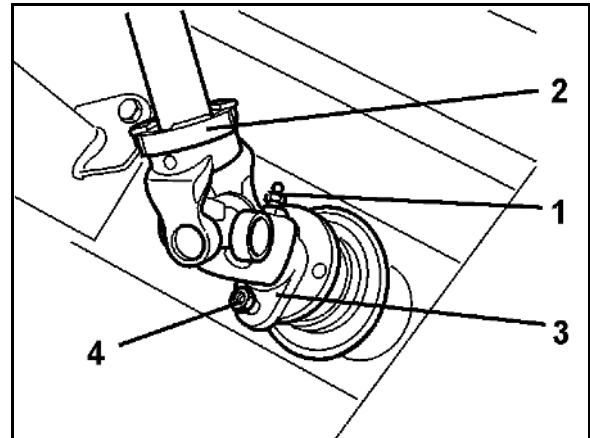

Fig. 97
1. Release the tapered grease nipple (Fig. 97/1) in the connection fork (Fig. 97/2) of the PTO shaft – through the opening in the underside of the PTO shaft guard.
2. Remove the shear bolt (Fig. 97/4) between the fork flange (Fig. 97/3) of the PTO shaft and the flange of the gearbox input shaft.